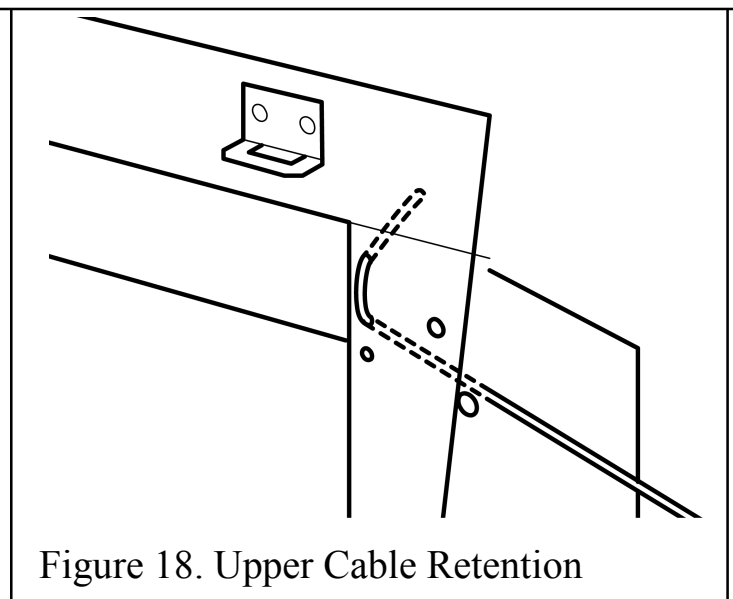

Figure 18. Upper Cable Retention
5. The hotbox has two small holes at each upper side. Insert one end of each cable (one cable each side) from the back through the lower of the two holes and return the end through the upper of the holes. See figure 18. Give the cables a pull so that they grip against the hotbox flanges.